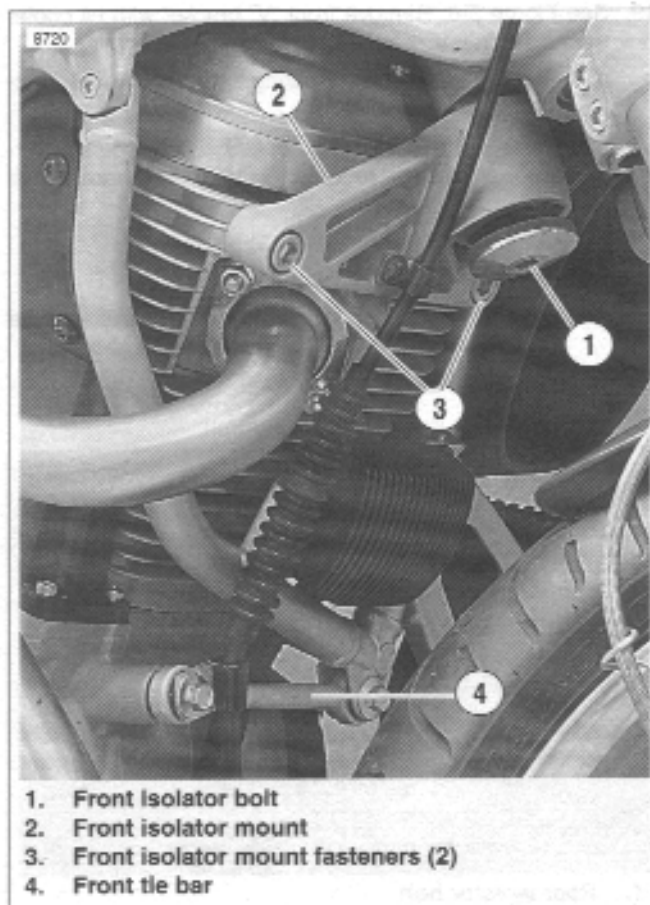

Figure 3-10. Front Isolator and Tie Bar Assemblies
2. See Figure 3-10. Insert front isolator bolt (1) through front isolator (2) and loosely thread into frame. Do not tighten at this point.
3. See Figure 3-10. Install isolator mounting fasteners (3) and tighten to 49-51 ft-lbs (66-69 Nm).
- b. Figure 3-10. Install front tie-bar to engine and tighten to 25-27 ft-lbs (33.9-36.6 Nm).